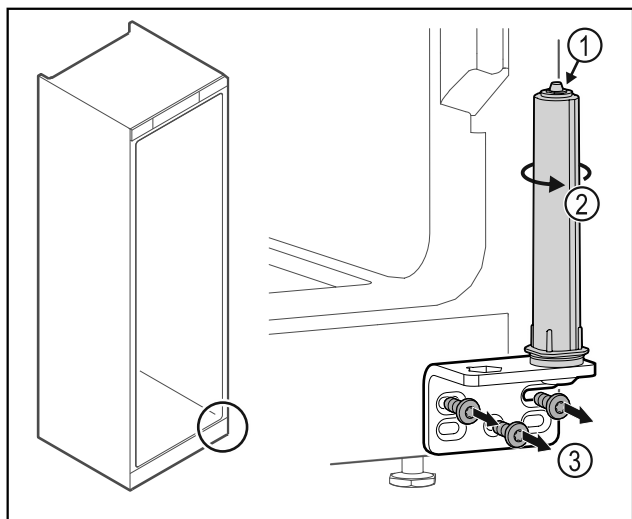

Fig. 26
- Do not disassemble the door closing system Fig. 26 (1).
- Turn the closing system Fig. 26 (2) until it clicks.
- Unscrew the hinge Fig. 26 (3).